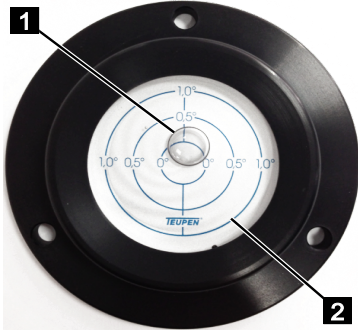

Fig. 133
6. Level out the chassis by aligning it with the circular level (Fig.133) using the outriggers. The bubble (Fig.133/1) in the circular level must be within the 1° circle (Fig.133/2).